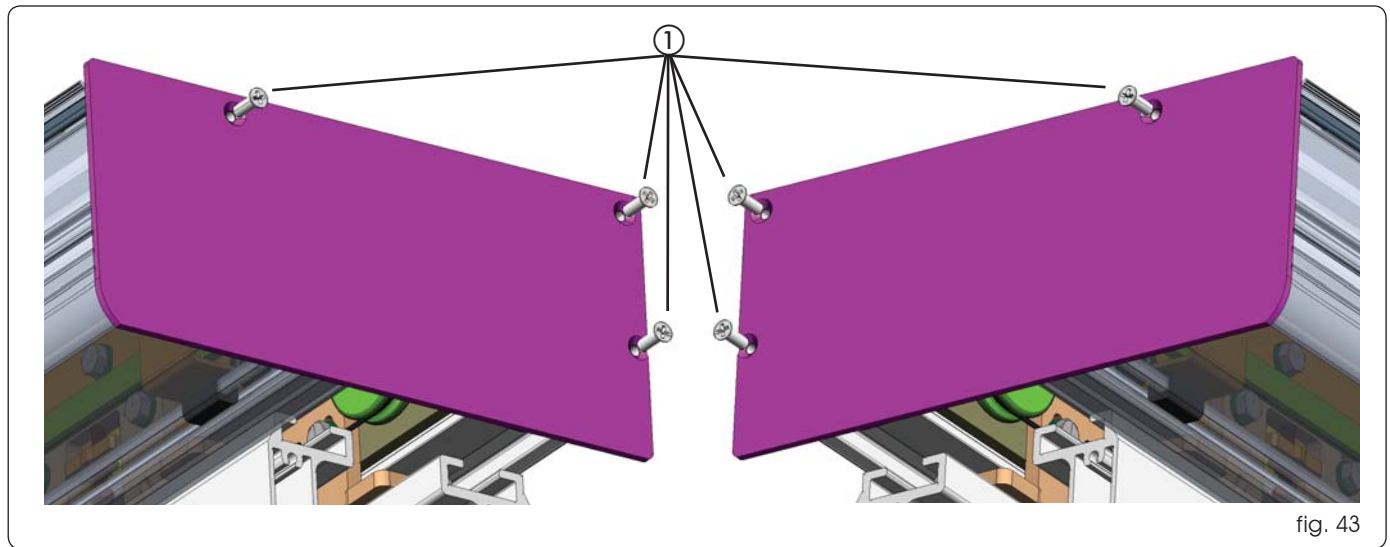

fig. 43
To fit the side panels, use the screws on the support profile to fit the side panels as shown in fig. 43 ref. ①.